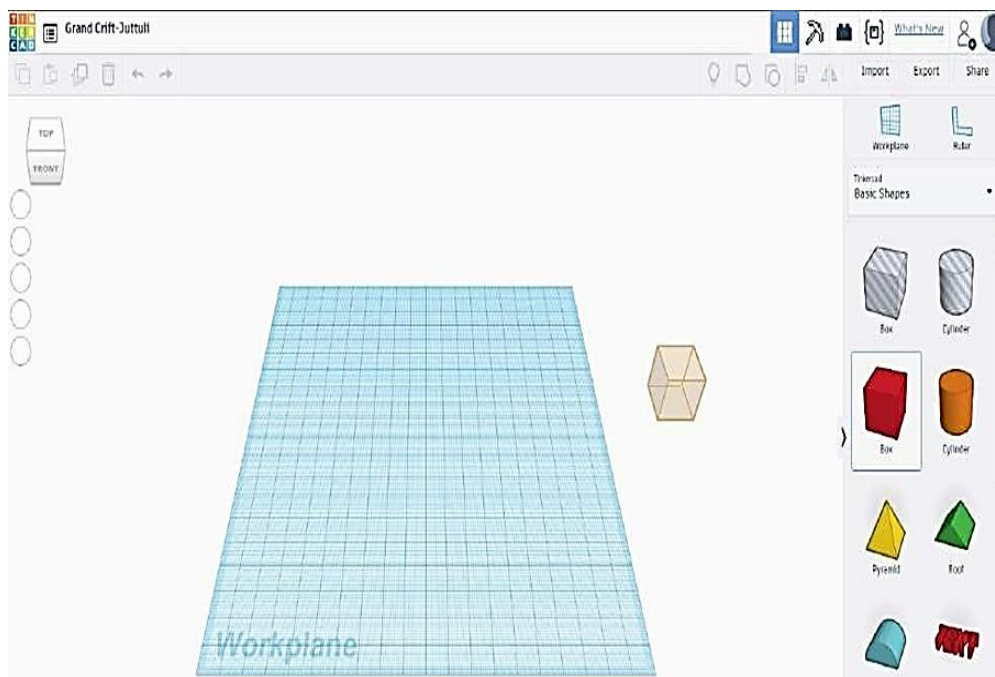

Fig. 4.12: Click and Drag a Box
2. Click and drag a box on to the Work plane (Fig. 4.12).